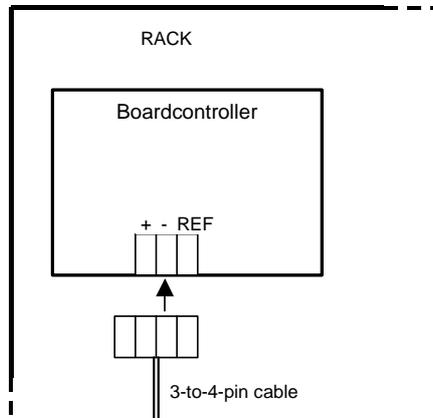
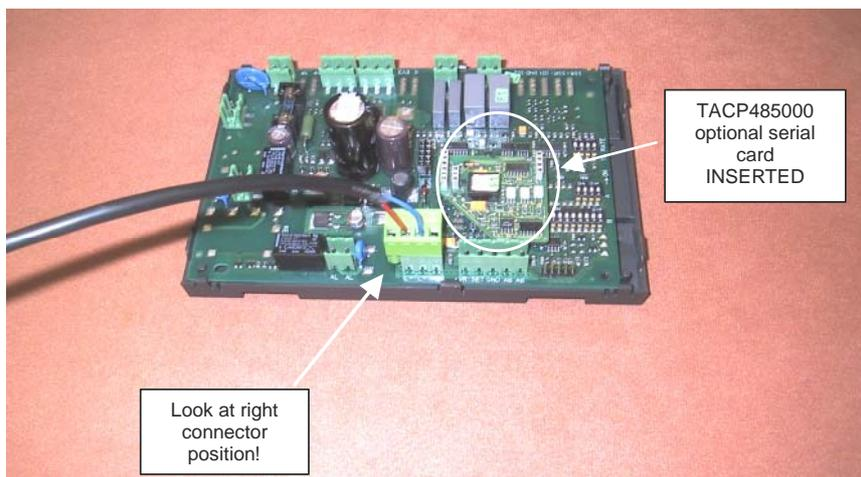
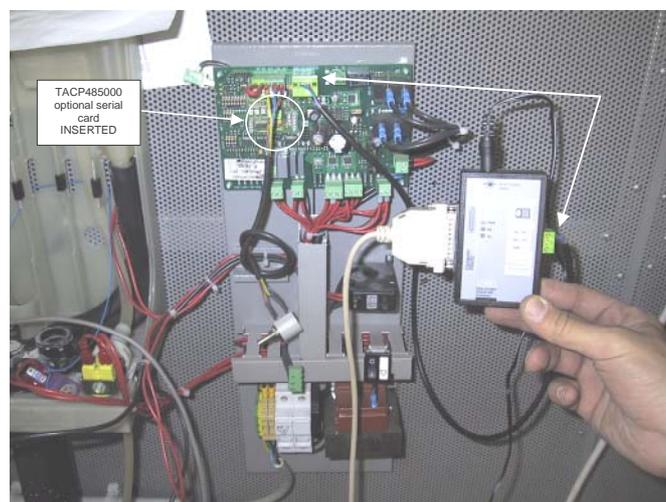

Figure 23
Figure 24
Figure 25
**Unlike Interface Boards, in this case the output connector has 3 poles. Care must be taken when plugging the 3-to-4-pole cable connector (see Figure 23, Figure 24, and Figure 25).**
**Unlike Interface Boards, in this case the output connector has 3 poles. Care must be taken when plugging the 3-to-4-pole cable connector (see Figure 23 e Figure 24).**